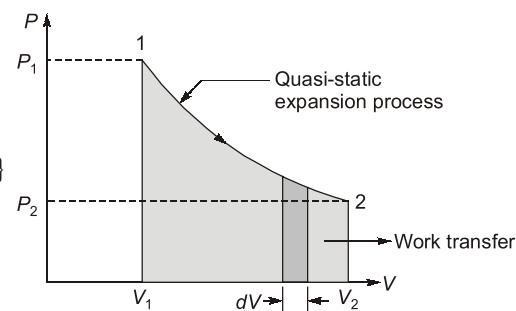

Figure 2.4
- Plotting the above process on a  $P$ - $V$  diagram, assuming the process to be quasi-static Fig. 2.4.